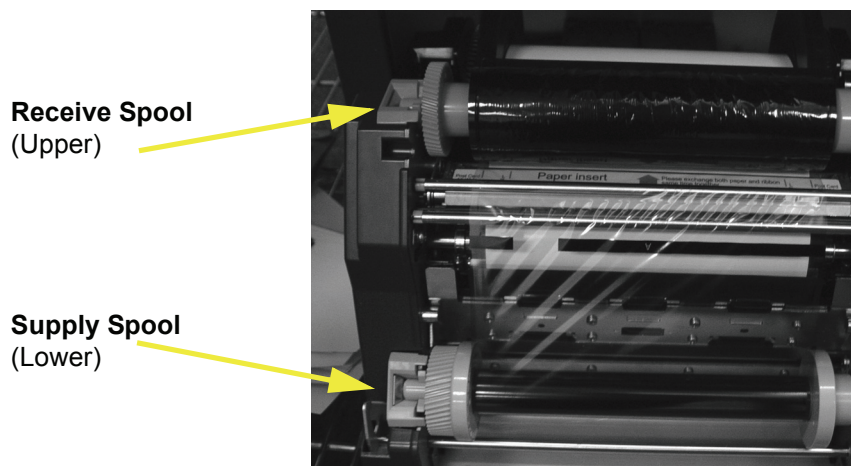

Figure 25. Ribbon Spool Placement
3. Remove the ribbon from the printer noting the placement of the receive and supply spools (see Figure 25).